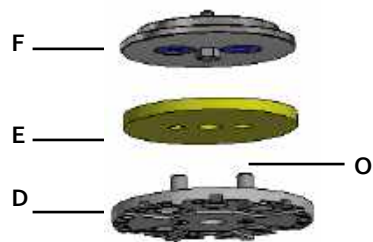

Fig. 4
3. Choose the appropriate tooling holder attachment – magnetic Plug 'N Go plate (D Fig 4) for Metal Bond tools or Foam Hook and Loop Adapter plate for polishing resins and sandpaper.
4. Insert the two shear pins (O Fig 4) through the compression foam pad (E Fig 4) into the rubber grommets on the pad driver (F Fig 4). Attach the corresponding tooling to the plate.
To install and remove the pad driver (F Fig 4) on the bottom of the machine, you will need a 17 mm socket wrench, a soft face mallet, and some medium-strength threadlocker (blue Loctite 243 or equivalent).
To replace a broken shear pin (0 Fig 4):
1. Remove the Plug 'N Go plate (D Fig 4) from the pad driver (F Fig 4). Before replacing the shear pin apply a generous amount of permanent red threadlocker (Loctite 266) on the screw and into the hole.
1. Remove the Plug 'N Go plate (D Fig 4). Remove the bent shear pin by hitting with a hammer. Before replacing the shear pin apply a generous amount of permanent red thread locker (Loctite 266) on the screw and into the hole; tighten.
3. Remove the Plug 'N Go plates and pad drivers (Fig 4).